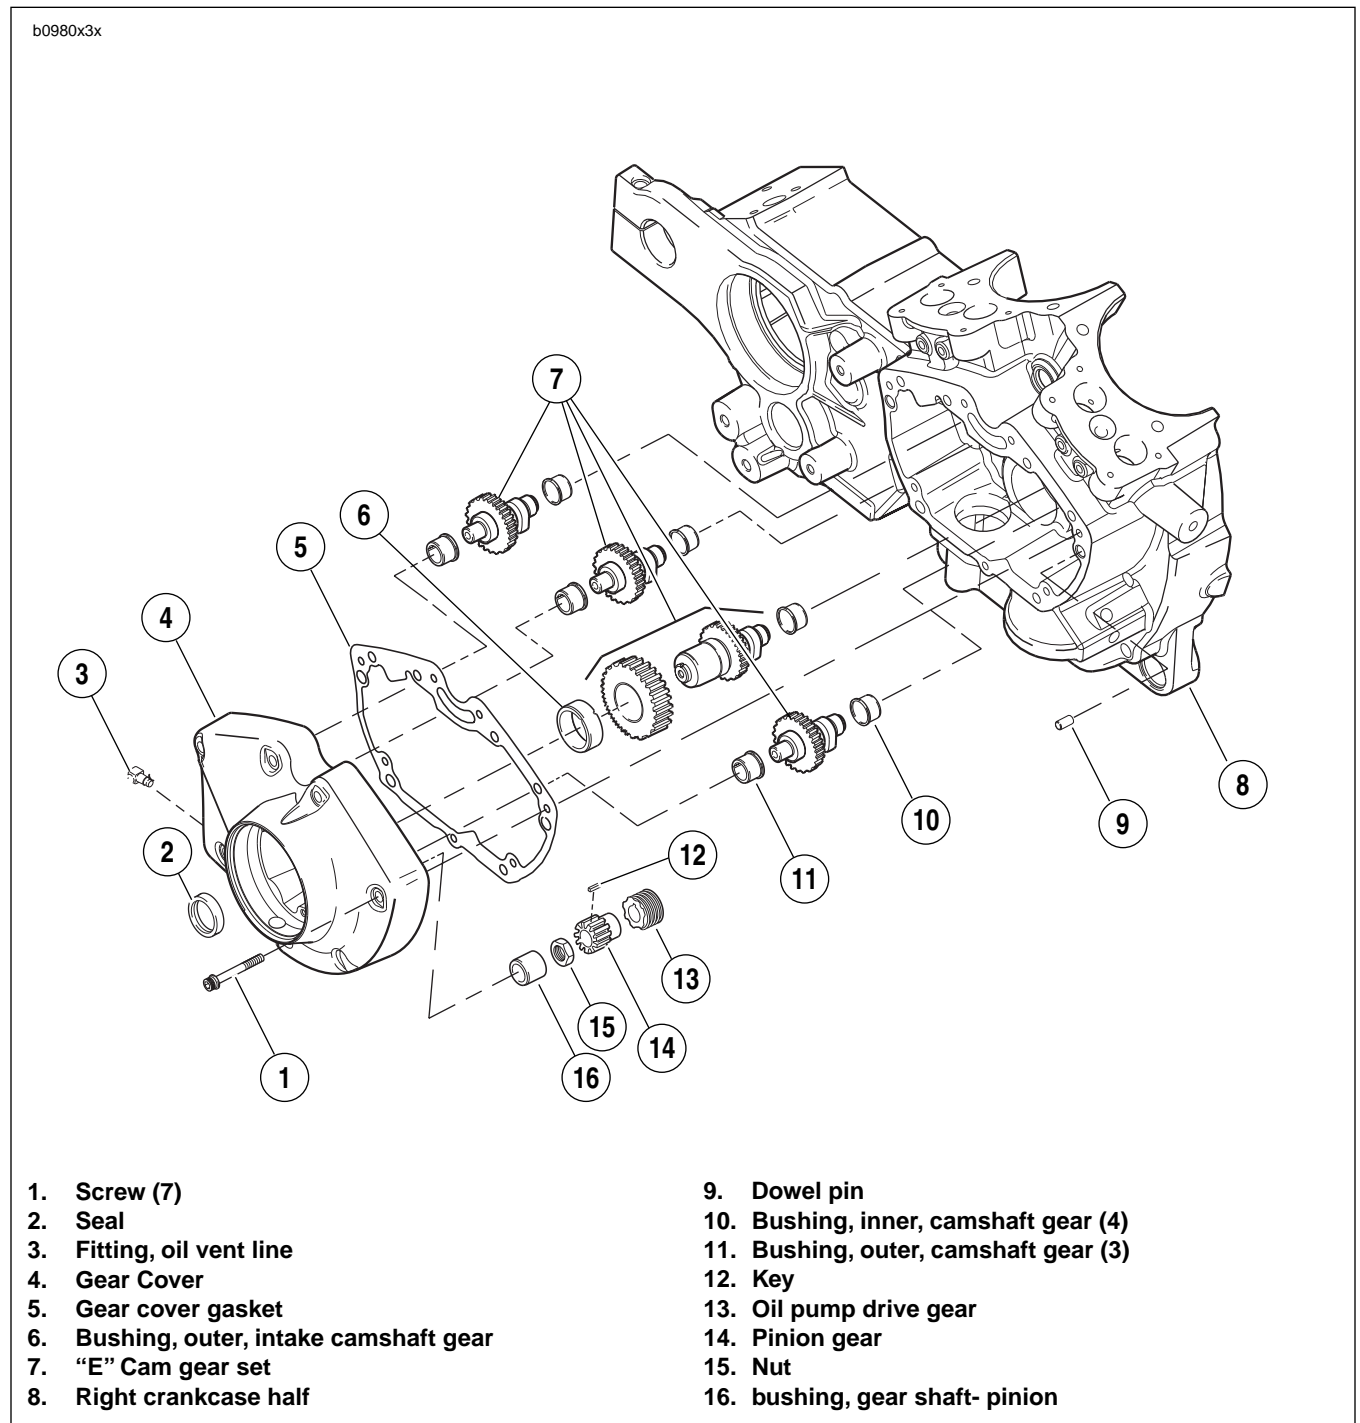

Figure 3-128. Gearcase Cover & Cam Assembly
1. See Figure 3-128. Thoroughly clean area around gearcase cover and tappets. Blow loose dirt from crankcase with compressed air.
2. See Figure 3-128. Install pinion nut.
3. See Figure 3-128. Liberally apply engine oil to bushings, shafts, and gears. Install all cam gears into bushings of right crankcase half, properly aligning timing marks of cam gears and pinion gear.
4. See Figure 3-128. Install a **new** seal and **new** dry gear cover gasket on crankcase.